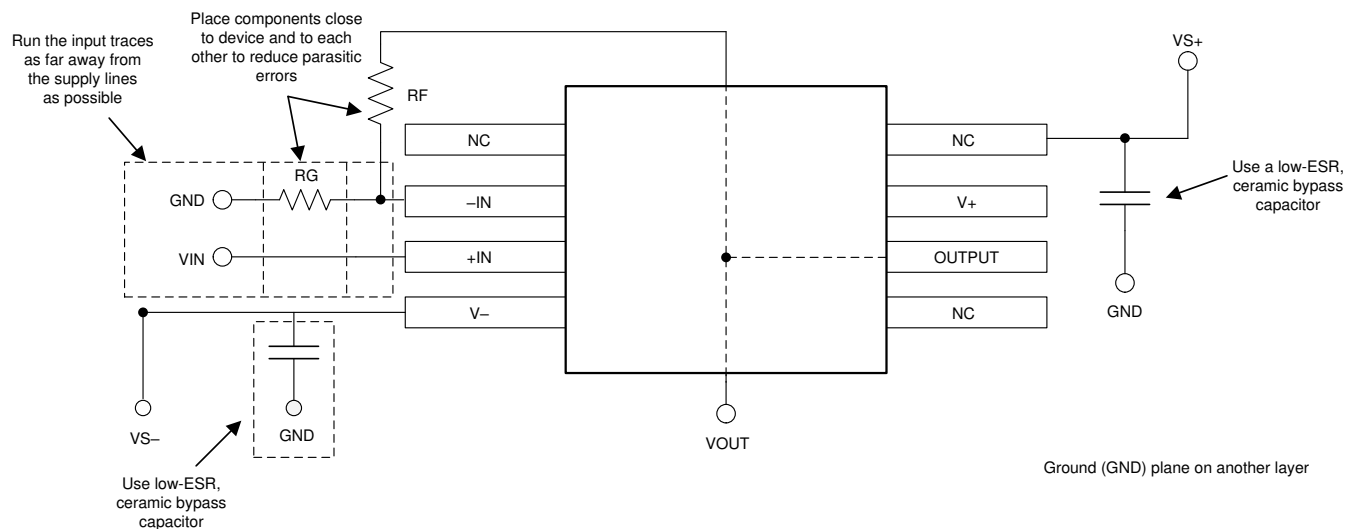

Figure 10-2. Operational Amplifier Board Layout for Noninverting Configuration
- Place the external components as close to the device as possible. As illustrated in Figure 10-2, keeping RF and RG close to the inverting input minimizes parasitic capacitance.